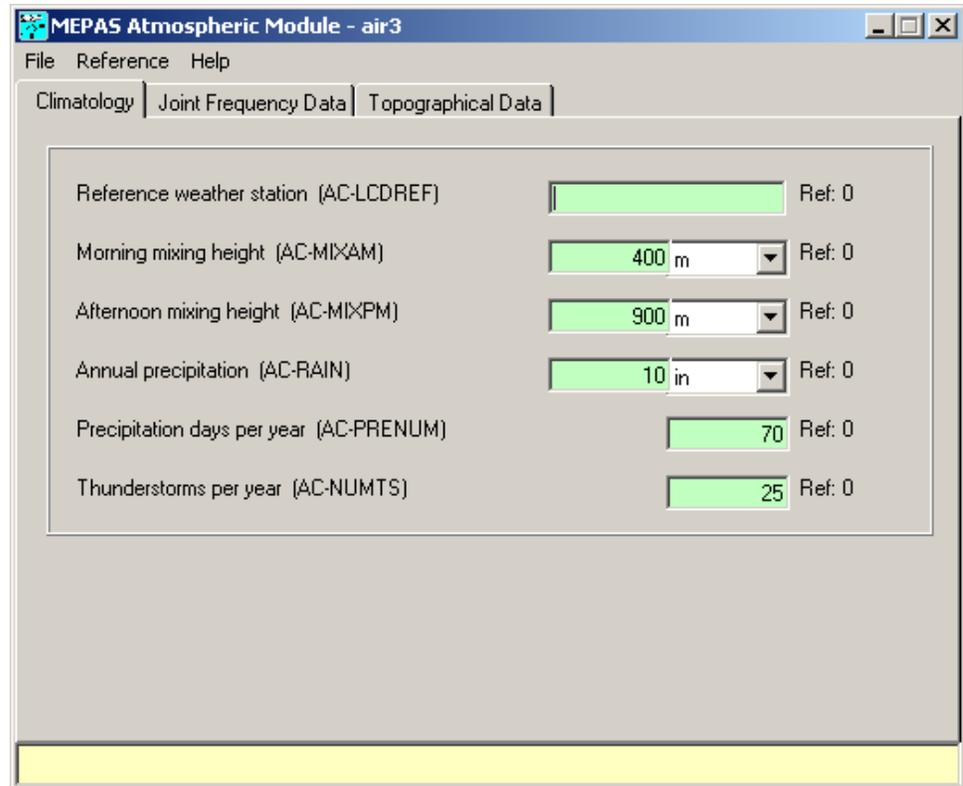

Figure 23. Mepas Atmospheric Module – Climatology tab
- The first tab labeled “Climatology” is shown in Figure 23 and contains general climatological data.